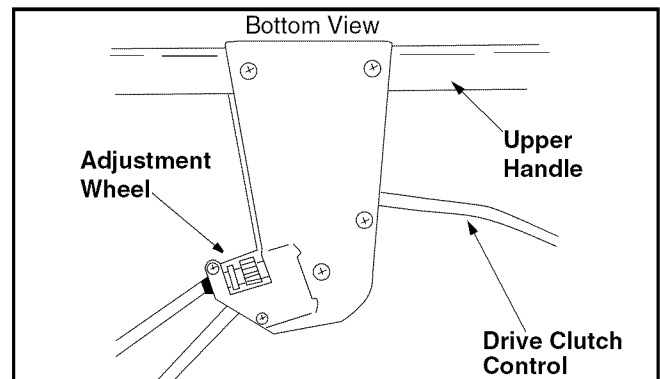

Figure 14
- To resolve the above problems, rotate the adjustment wheel with your fingers: clockwise to tighten the cable and counter-clockwise to loosen the cable. See Figure 14.